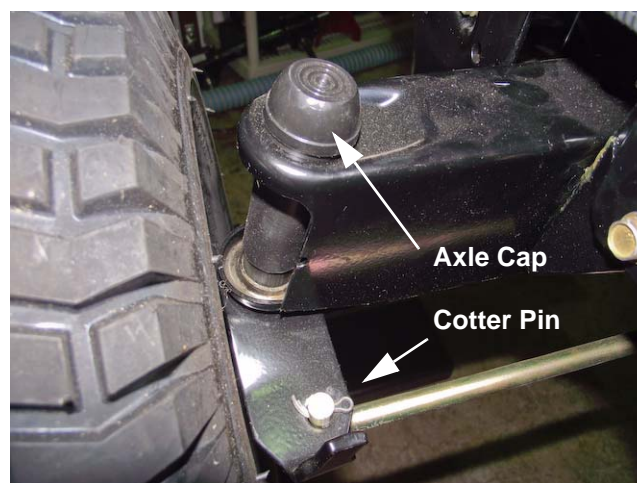

Figure 3.4
3. Remove the cotter pin that holds the fixed tie rod to the axle. See Figure 3.4.